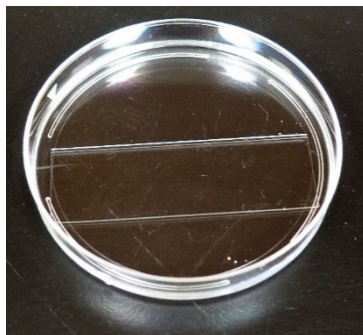

Figure 5-3: scWest chip rehydrating in 15 mL of 1X Suspension Buffer.
- 4 Add 15 mL of 1X Suspension Buffer into each Petri dish to cover each scWest chip (Figure 5-3). Equilibrate all chips in 1X Suspension Buffer for >10 minutes (up to a maximum of 4 hours) at room temperature before use. This can be done prior to the single-cell suspension preparation, so that the chips are rehydrated by the time the single-cell suspension is prepared.